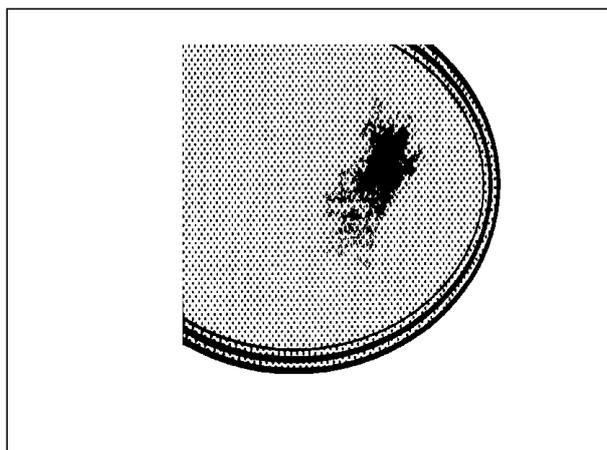

FIG. 2
- After a period of time may appear metal reflex and scratches (fig. 2) due to the wrong cleaning and the wrong use of the pots. The scratches are difficultly removable, but they do not compromise the good working of the hob.